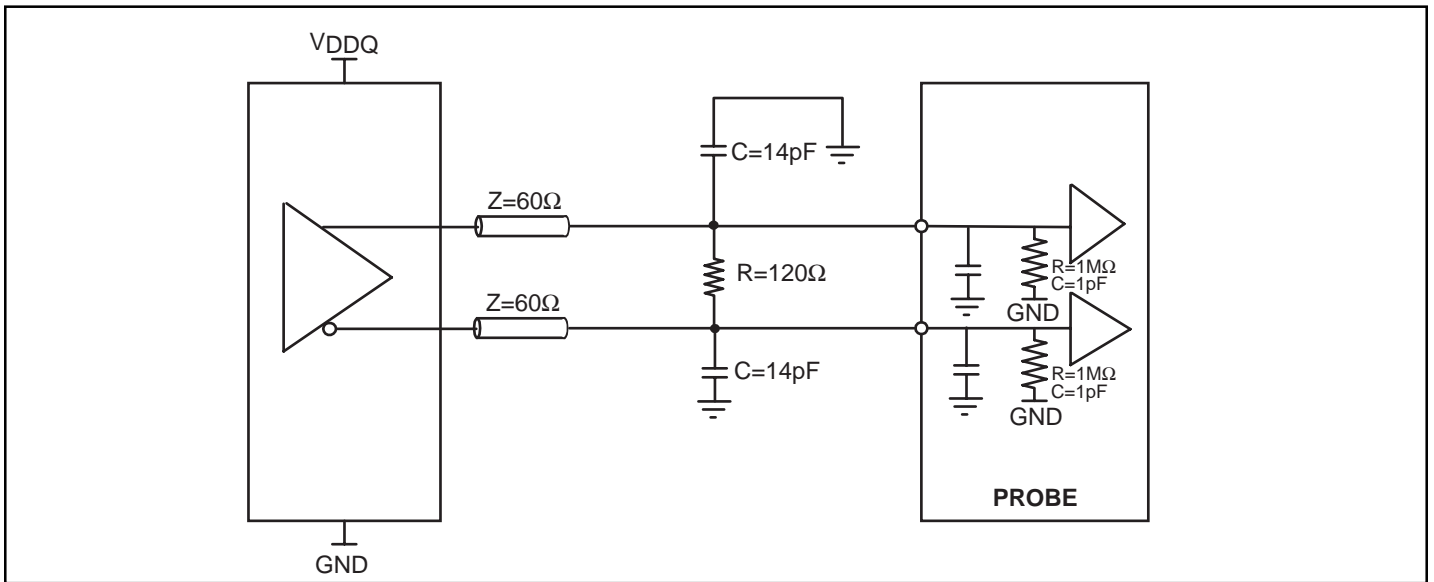

Figure 2. Output Load Test Circuit 1
3. V_{OX} specified at the DRAM clock input or the test load in Figure 2.
3. VOX specified at the DRAM clock input or the test load in Figure 2.